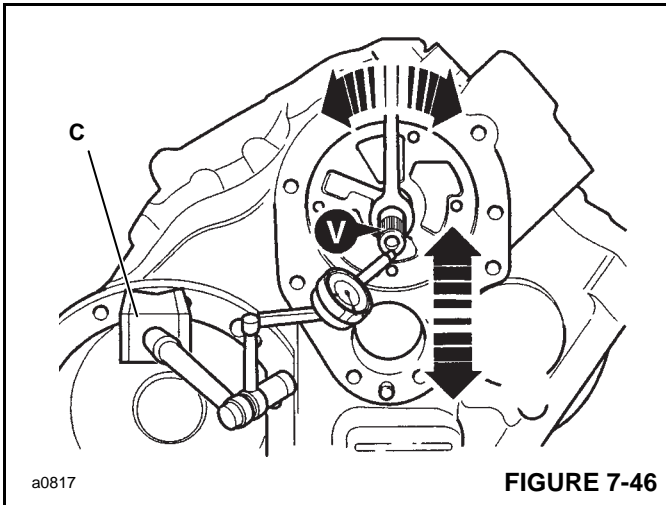

FIGURE 7-46
- a. Protect the input shaft (V, Figure 7-46) with a metal sleeve and clamp vice grips into position on the shaft. Set the dial test indicator (DTI) as shown in Figure 7-46 at C and using the vice grips as a lever, rotate the shaft to seat the bearings fully while measuring the end play. Remove the DTI and vice grips from the transmission.